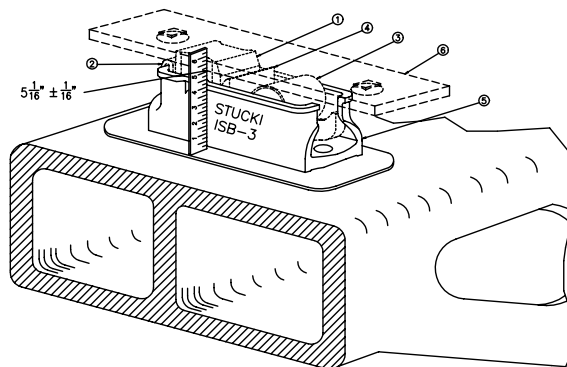

Figure 3. Measurement of Set-Up Height
Vertical space between the car body side bearing wear plate ⑥ (or wedge) and the truck bolster surface to which the side bearing cage is mounted must be $5\text{-}1/16" \pm 1/16"$, measured as illustrated in Figure 3.
The ISB-3 side bearing cage ⑤ (see Figure 3) application must be free of flaws or cracks and must be securely fastened to the truck bolster. Please refer to A. Stucki Company's roller side bearing installation instructions for cage fastener recommendations.